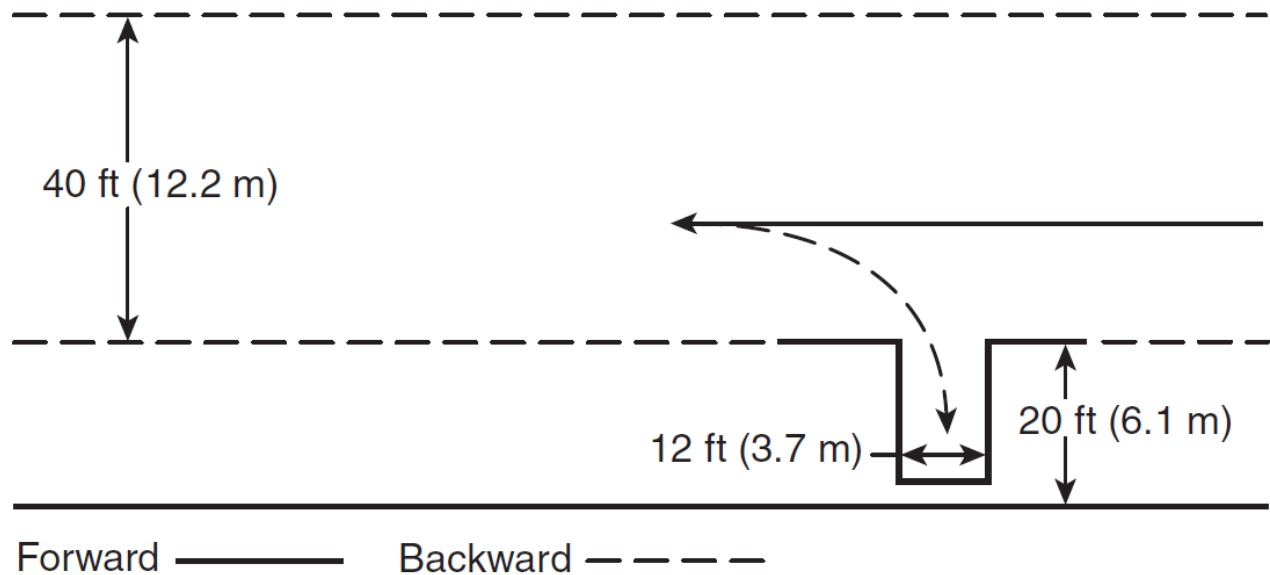

FIGURE A.4.3.2(a) Alley Dock Exercise.
A.4.3.2: The alley dock exercise measures a driver's ability to drive past a simulated dock or stall, back the apparatus into the space provided, and stop smoothly. A dock or stall can be simulated by arranging barricades 40 ft (12.2 m) from a boundary line. These barricades should be 12 ft (3.7 m) apart, and the length should be approximately 20 ft (6.1 m). The driver should pass the barricades with the dock on the left and then back the apparatus, using a left turn, into the stall. The exercise should then be repeated with the dock on the right side, using a right turn. [See Figure A.4.3.2(a).]